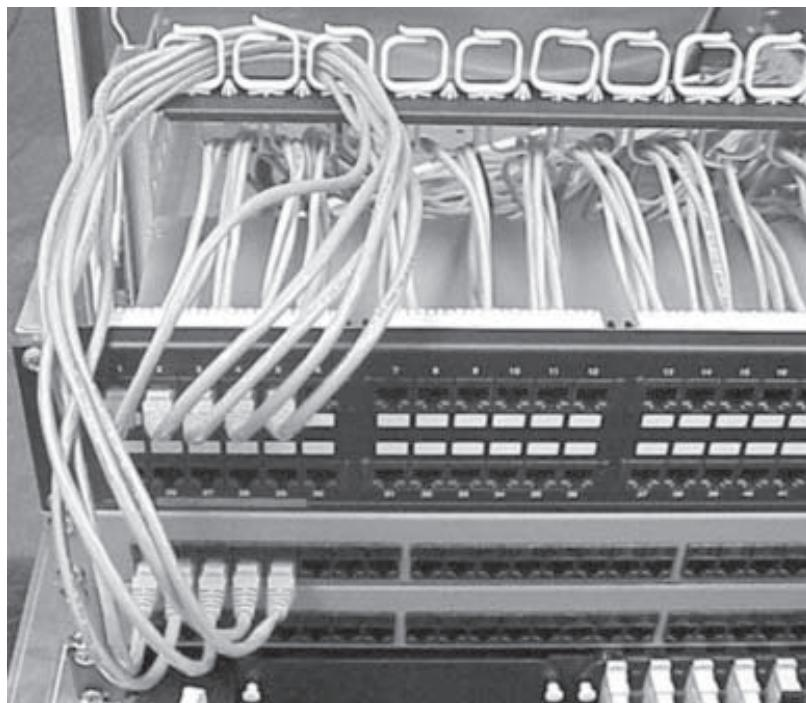

Figure 20
- Step 2** Install copper patch cords between patch panels, switches or routers, storing any excess cable by routing around the routing clips on the top side of the rack-mounted routing plate (Figure 20).